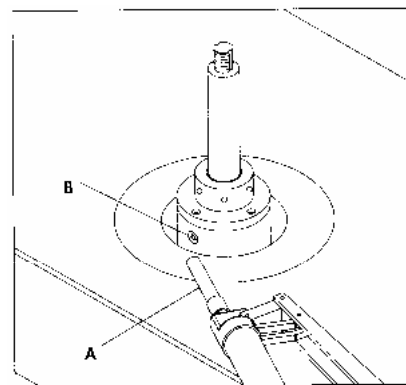

Fig. 5.1
The spindle bearings should be lubricated every 200 hours of use by using the grease gun (A) Fig.5.1, supplied.